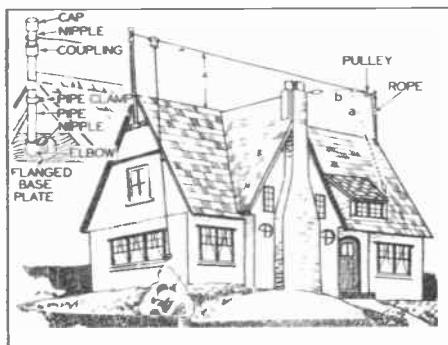

FIG. 2. All-wave antenna installation employing two self-supporting iron masts on a house roof.
Two iron pipes, each about 6 feet long and  $\frac{3}{4}$ " or 1" in diameter, may be erected at the extreme ends of the house and used as antenna supports; no guy wires will be needed if the pipes are anchored as shown in the detail sketch in Fig. 2. Start at the left mast, which is almost directly above the receiver location. Place a ladder against the house, then fasten two short lengths of 1" or 2" thick wood to the side of the house with wood screws (with lag screws in the case of a brick house), placing one board a few inches below the ridge and the other about 18 inches below the ridge. Mount a pipe flange on the lower board, insert in it a nipple, then put on the elbow and insert the pipe mast, after first placing a coupling, nipple and cap on the upper end and attaching the transformer end of the antenna. Fasten the pipe to the upper block (or directly to the projecting ends of the roof near the peak) with a pipe clamp and wood screws. Install the other mast in the same way, but attach a pulley and rope to it at the top to simplify tightening of the aerial wire. Use an auxiliary rope to pull the antenna across the roof.
If the antenna length exceeds the distance between supports, three procedures are possible: 1. Cut off surplus wire if using a broadcast antenna; an all-wave antenna may be shortened not more than about 3 feet with only a slight loss in effectiveness; 2. Bring the free end of the antenna down along the side of the roof to a dormer as indicated by dotted line *a* in Fig. 2, or to the chimney as at *b*; 3. Cut off the extra length of wire, duplicate it with the same length of about No. 18 enamel-covered wire, wind this smaller wire on a long porcelain insulator, cut the regular antenna near the transformer, fasten its ends to the insulator, then bridge over the break with the coil just formed, making soldered connections. In the case of an unequal doublet system, cut the surplus from the longer section and insert a coil of equivalent length in that section near the antenna transformer. For a balanced doublet, cut half the surplus from each end and insert one equivalent coil in each section, near the transformer.
*Example No. 2.* An all-wave antenna is to be installed on a home like that shown in Fig. 2, having a steep slate roof which should not be walked on, no trees in the vicinity, no rear garage, and a maximum distance of about 50 feet between house peaks. The receiver is located in the living room, at the left side of the house. The customer will not permit erection of a tower or mast in the vicinity of the house.
FIG. 2. Typical scratch removers; these generally contain a solid stain at one end (which is rubbed into scratches and slight defects) and a brush or buffer at the other end to smooth the applied stain. This is to be considered as "first aid" for minor scratches such as sometimes occur when delivering radio cabinets, rather than as a permanent repair.